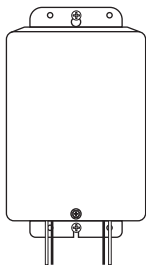

Figure 6
8. Use a screwdriver to install the metal cover on the front of the transformer. (Figure 6)